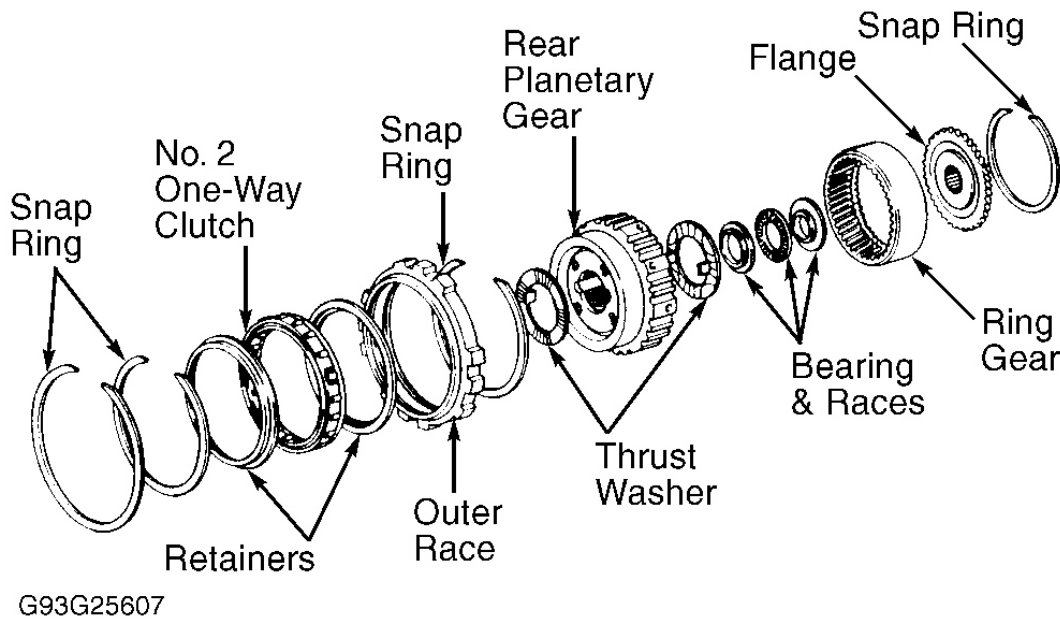

Fig. 31: Exploded View Of Rear Planetary Gear
2. Remove thrust washers from both sides of planetary gear. Separate No. 2 one-way clutch and planetary gear. Remove snap rings and side retainers from No. 2 one-way clutch. Note position of No. 2 one-way clutch and remove from outer race. See **Fig. 31**.